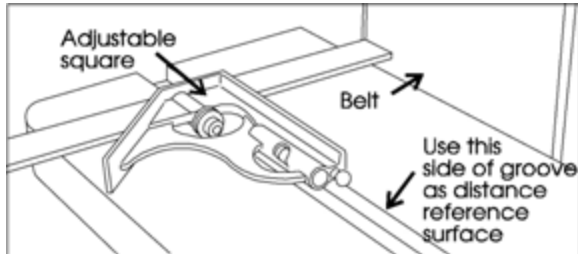

Figure 5: Using an adjustable square to check and set miter slot parallelism on the belt table
3. Place a scale or adjustable machinist's square against either the left or right edge of the belt or platen and measure the distance to the miter slot edge (See Figure 5).